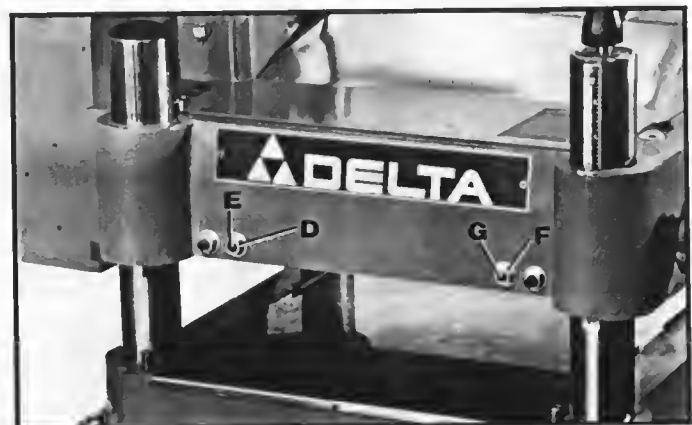

Fig. 37
5. If the height of the chipbreaker must be adjusted loosen nut (D) Fig. 37, and turn screw (E) until that end of the chipbreaker is properly adjusted.
6. Place the gage block on the other end of the chipbreaker and if an adjustment is necessary loosen nut (F) Fig. 37, and turn adjusting screw (G).